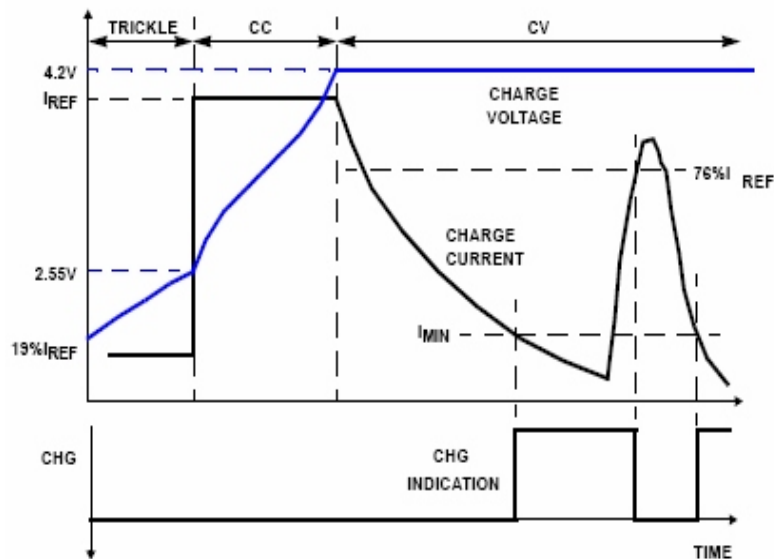

Figure 3.2.6.2 Charge progress illustration
1. Charge management circuit mainly charges lithium-ion battery and the circuit schematic diagram is shown in the figure 3.2.6.1: